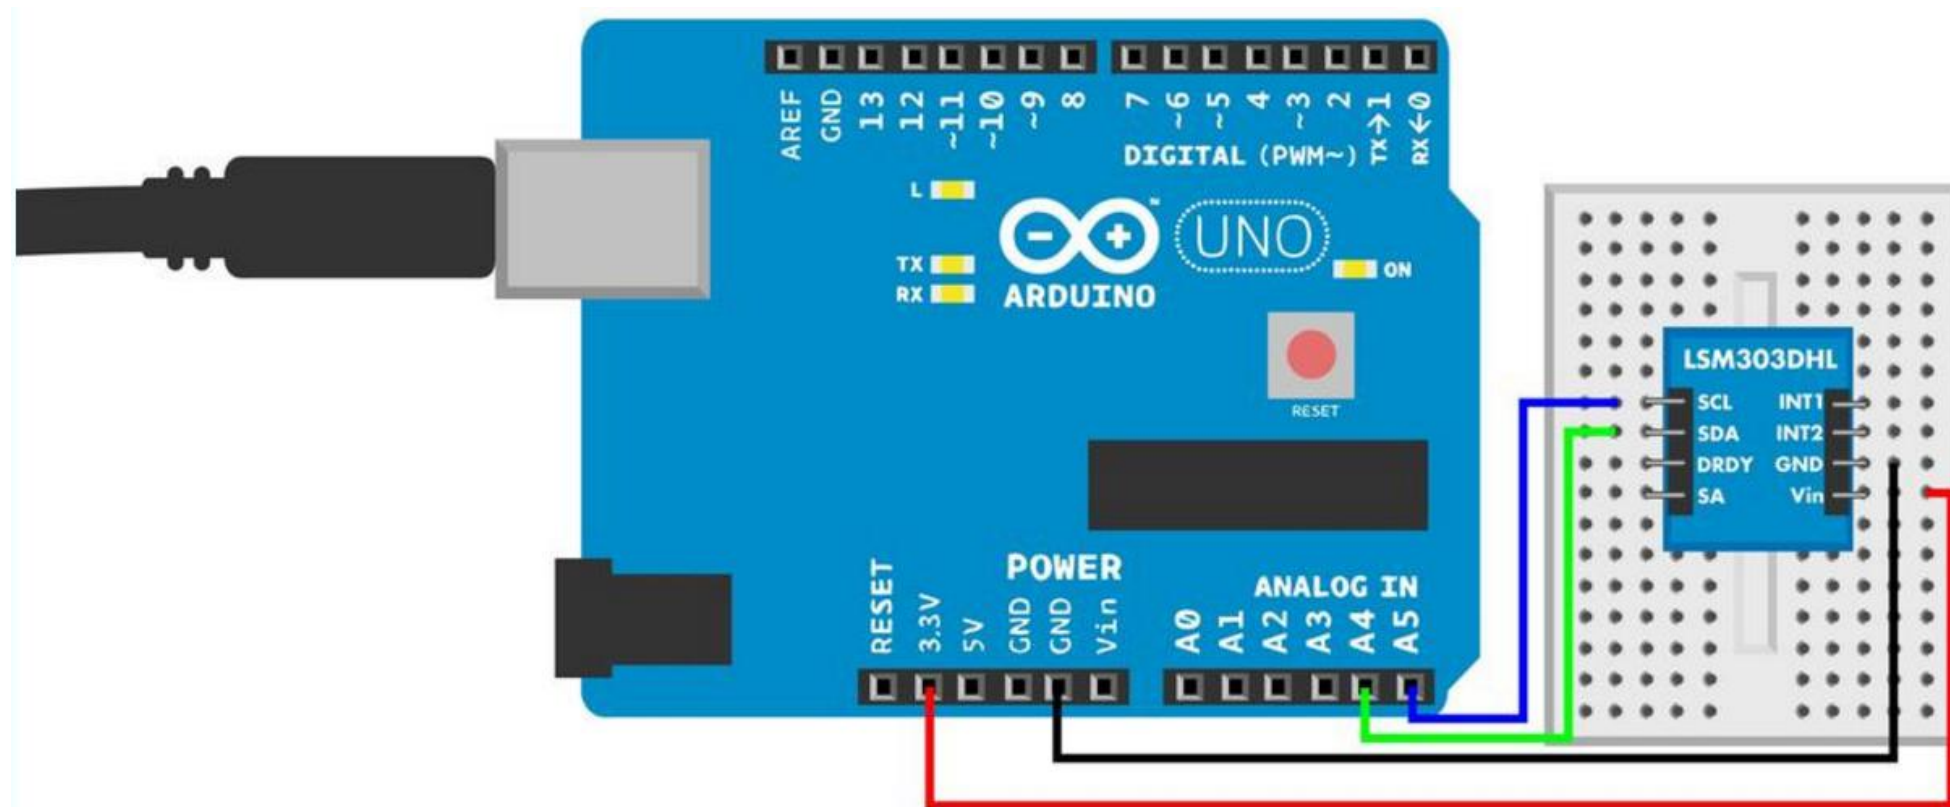

Figure 10-7. LSM303 compass-accelerometer circuit for Arduino
- Figure 10-7 shows the circuit for Arduino. Hook everything up as shown in the figure, and then run the sketch shown in Example 10-5.